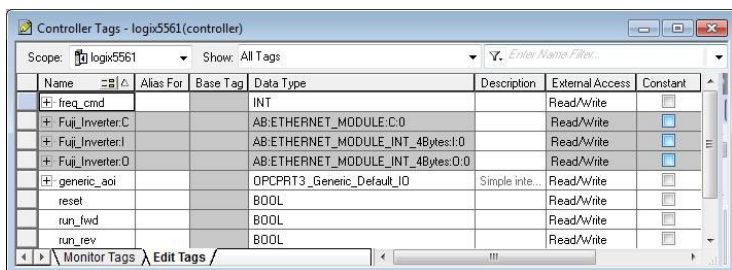

Figure 44: Create Generic Default AOI Tags
- 4) Create the tags in Figure 44.